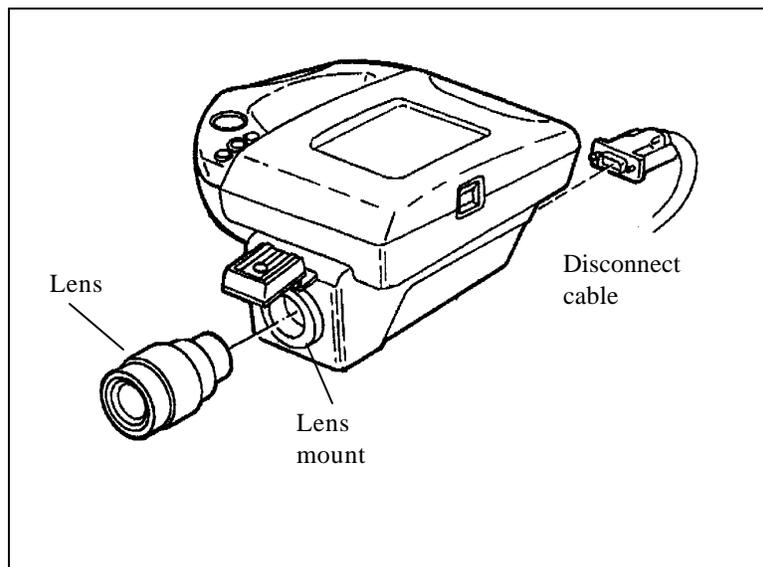

Figure 4- 8 Removing the lens assembly
1. Disconnect the cable from the camera. (Figure 4- 8)